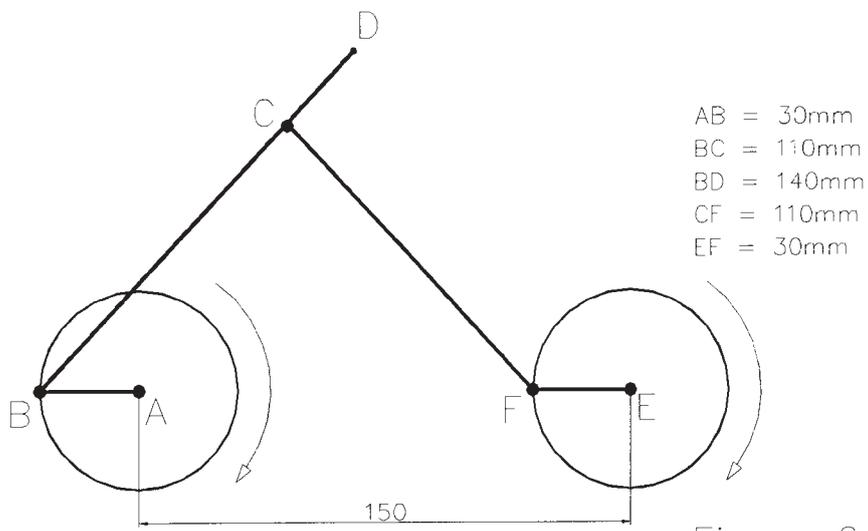

Figure 6.5
- 6.5 Construct the locus of points C and D for the mechanism shown in figure 6.5.